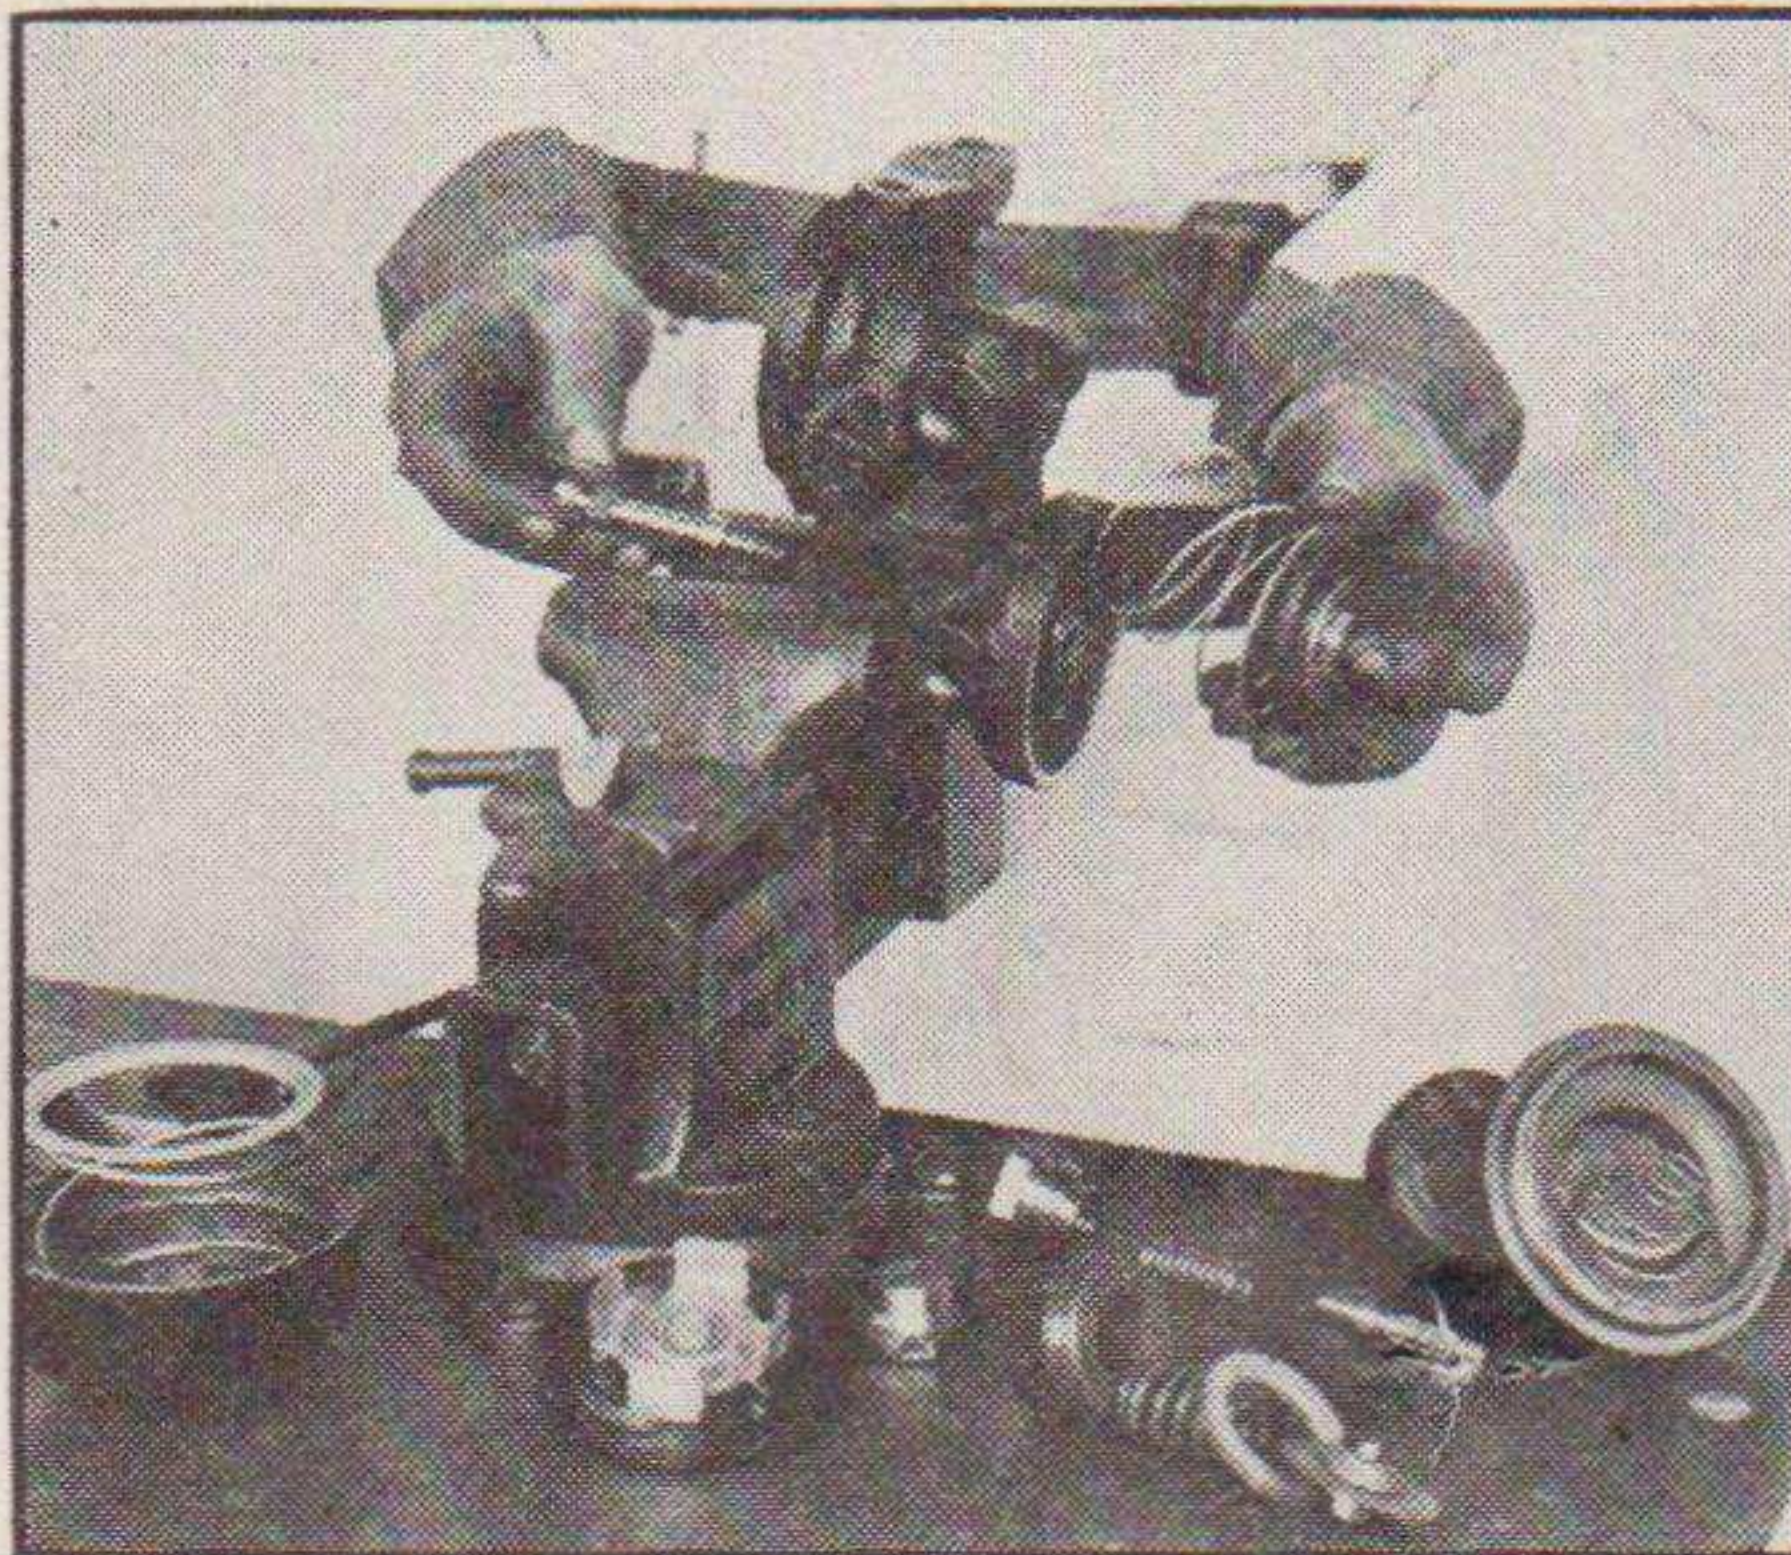
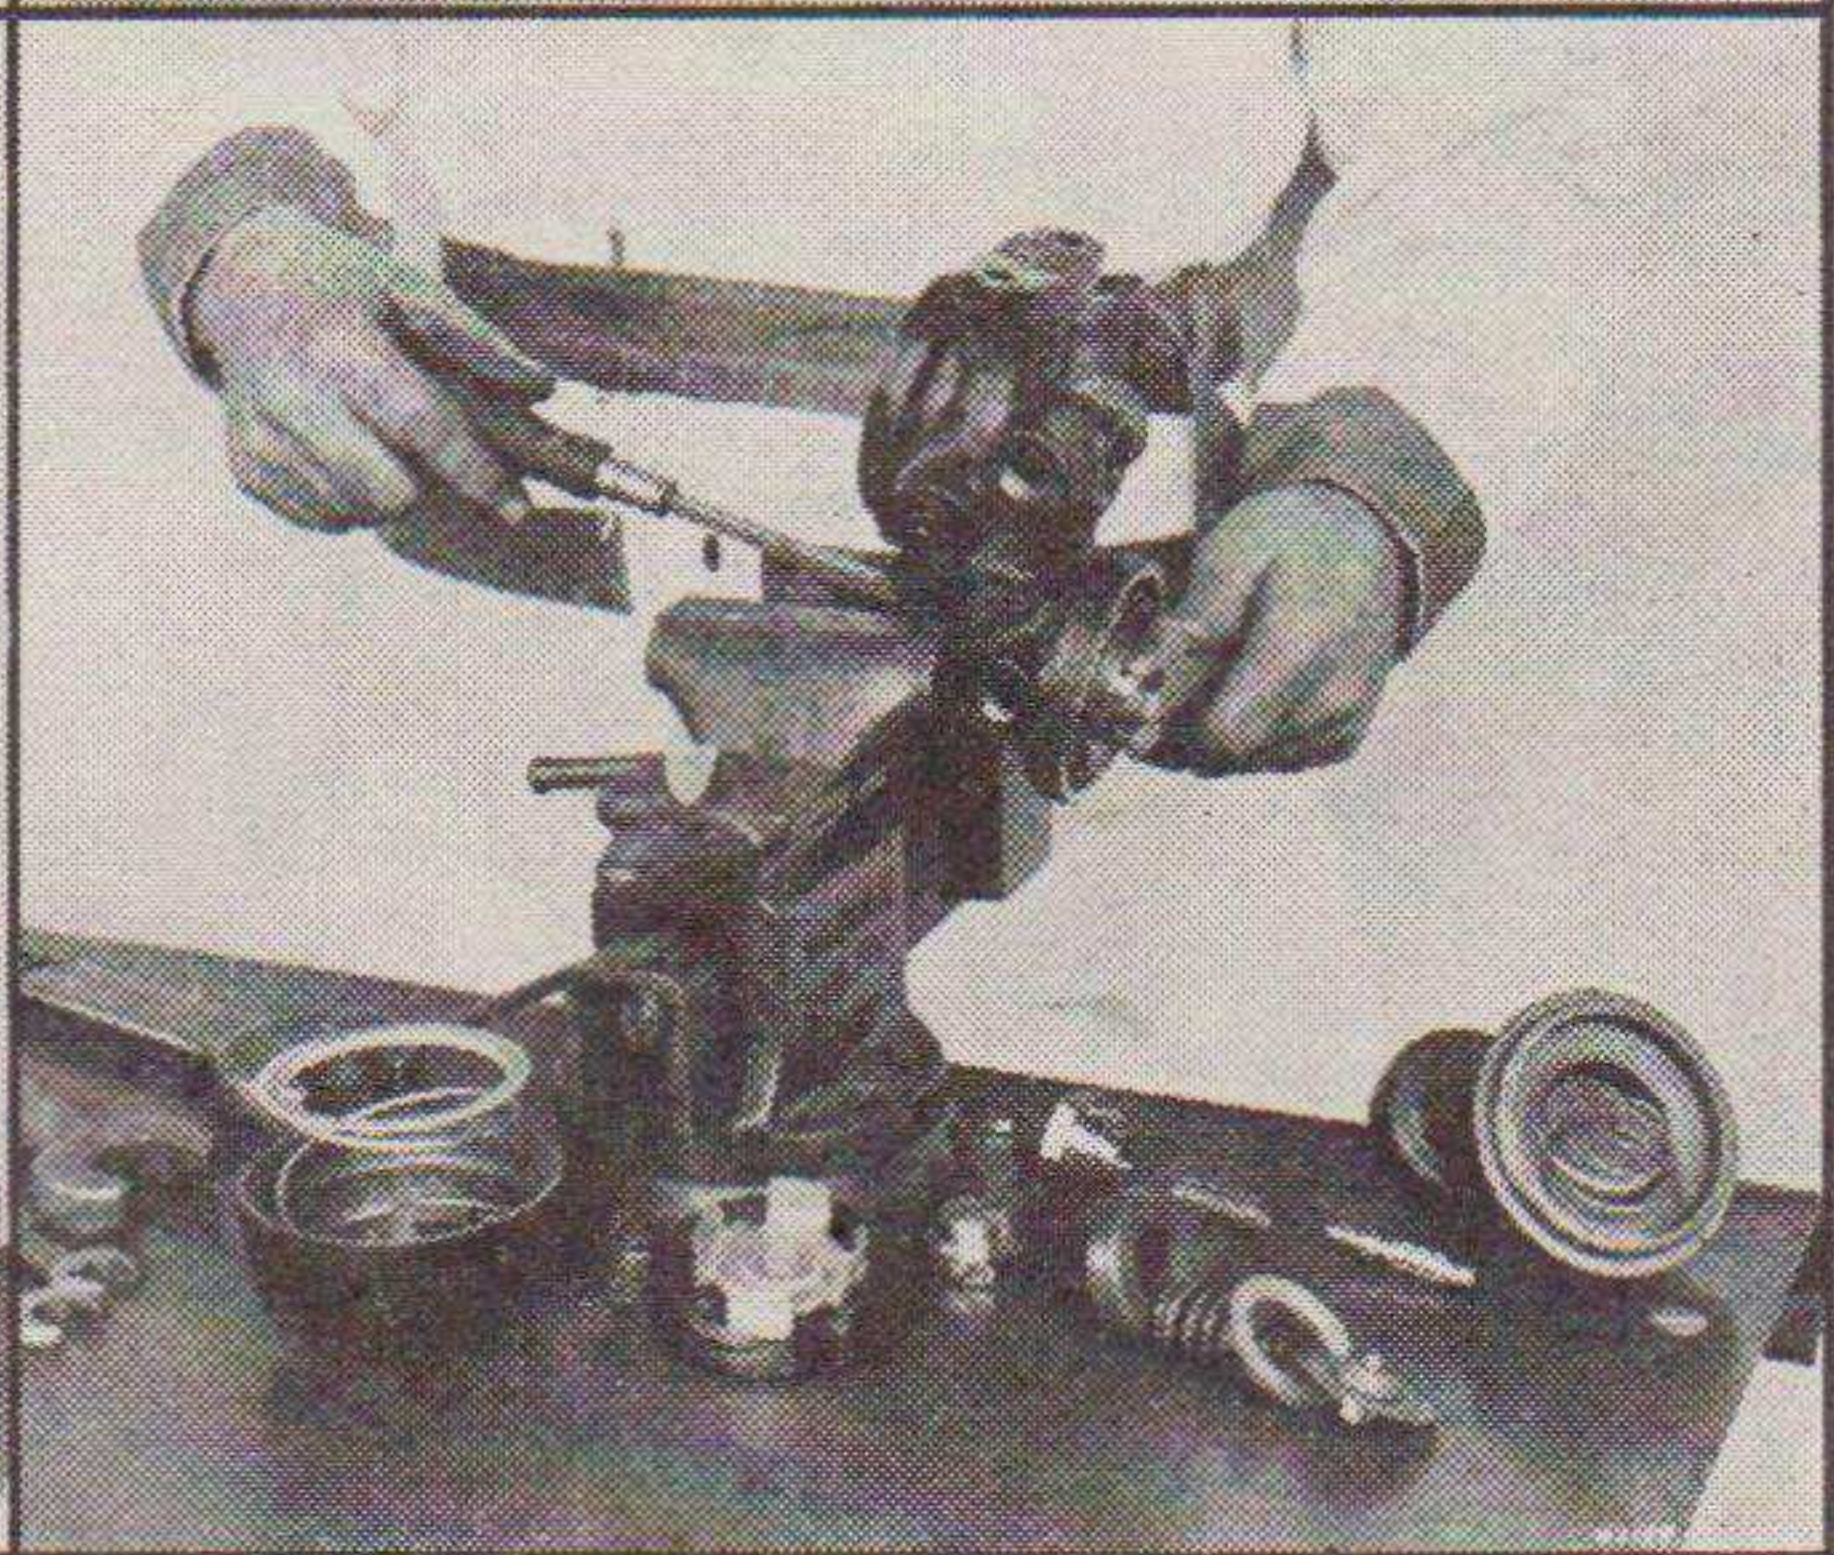

FIGURE 28. REASSEMBLING VALVE
FIGURE 27. REMOVING VALVE
(3) Remove cap nut. (Figure 27.) Insert screw driver into slotted top of valve and remove diaphragm lock nut. Pull out the valve stem and diaphragm.
(4) Clean the strainer and diaphragm in gasoline. Install a new diaphragm if necessary.
(5) Reassemble by reversing the procedure outlined above. (Figure 28.)